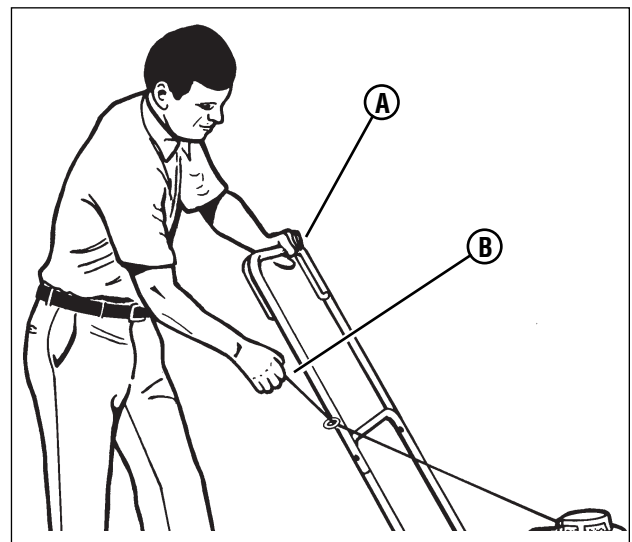

Figure 14: Starting the engine
6. Stand behind the mower. Use one hand to hold the engine stop lever in the operating position (**A, Figure 14**). Use the other hand to hold the recoil-start grip (**B**).